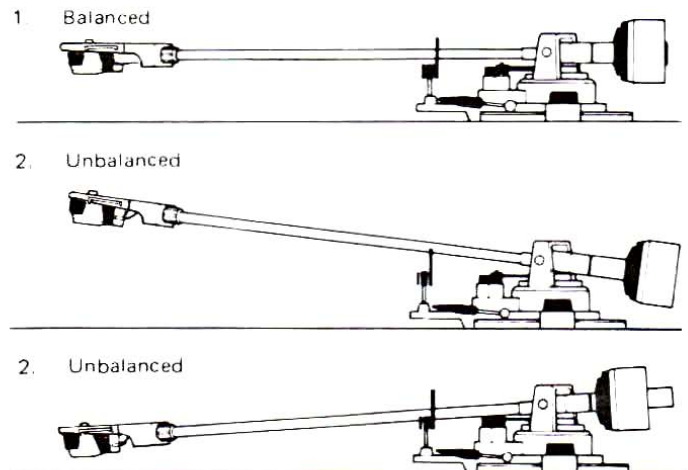

Fig. 4 Adjusting the horizontal balance
- 5) Turn the Main Weight and move it forward or backward to balance the entire tonearm support. Leave the Main Weight where it balances the tonearm horizontally, as shown in Fig. 4.